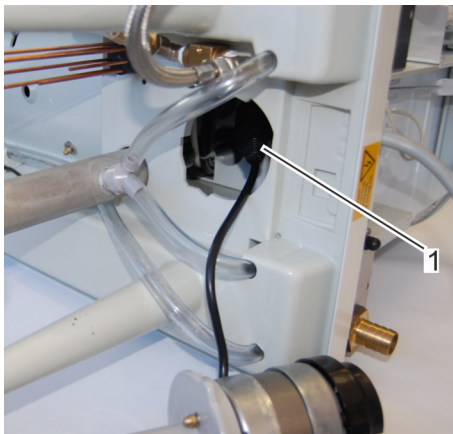

Fig. 48: Disconnecting the plug connection
7. ➤ Disconnect the plug connection (Fig. 48/1).